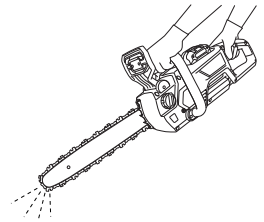

Fig. 20
- ① Press the switch while pressing the lock-off button.
- ② Once the saw chain begins turning, push the chain brake forward toward the saw chain.
- ③ If the saw chain stops, the chain brake is functioning as it should. To release the brake, release the switch and pull back on the chain brake.
6. Checking chain oil discharge (Fig. 20)
When the switch is engaged while pressing the lock-off button, the saw chain rotates. (**Fig. 20 on page 58**)